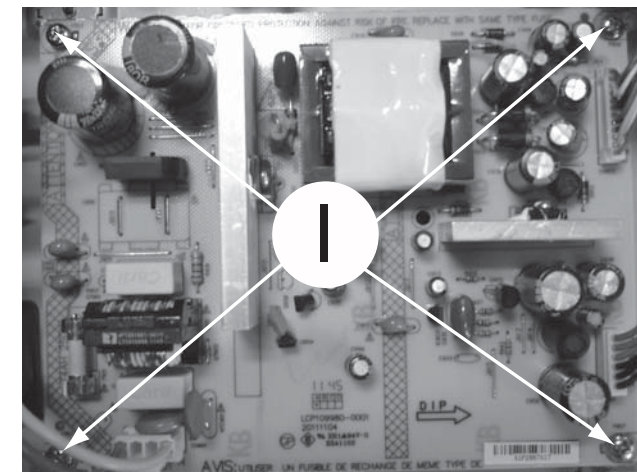

Figure 10
- 1) Loosen 4 screws "I" on the top of Power board as shown in figure 10.